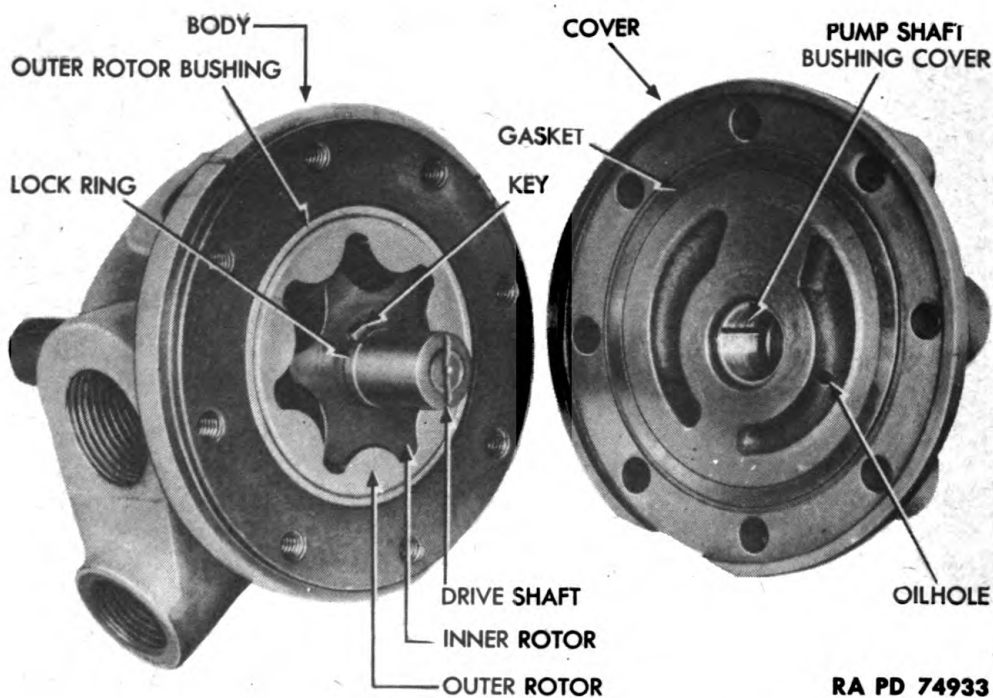

Figure 4 — Hydraulic Pump-cover Removed
c. **Remove Inner and Outer Rotors** (figs. 4 and 5). Remove key from hydraulic pump drive shaft by pushing shaft to rear. Remove lock ring from shaft, and pull shaft out of hydraulic pump body. Pull hydraulic pump inner rotor out of hydraulic pump outer rotor, and remove outer rotor bushing out of hydraulic pump body.